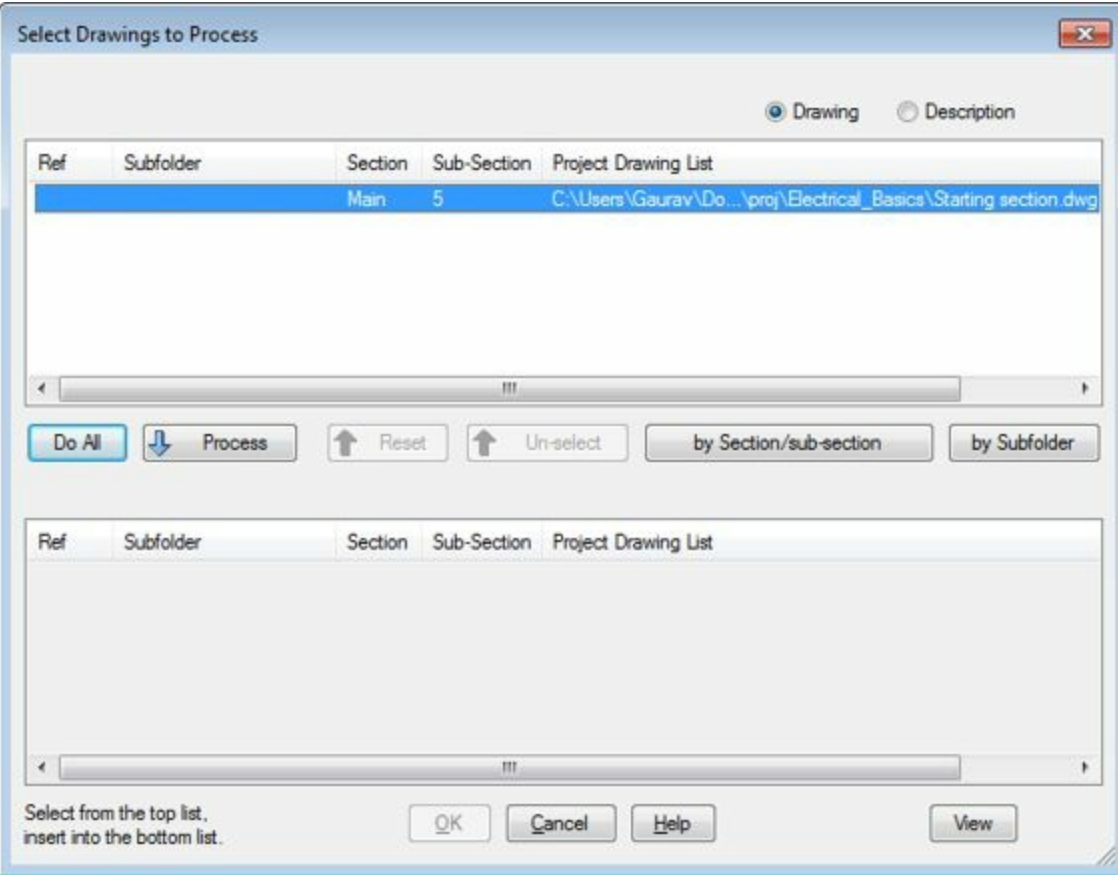

Figure-27. Select Drawings to Process dialog box
- Click on the **OK** button from the dialog box. The **Select Drawings to Process** dialog box will be displayed refer to Figure-27.
- Click on the **Plot Project** tool from the **Project Manager**. The **Select Drawings to Process** dialog box will be displayed; refer to Figure-27.